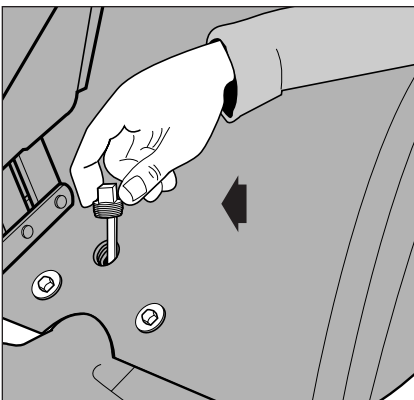

Figure 5-8: Checking gear oil level; markings on dipstick (tine attachment transmission) must face rear.
IMPORTANT: Two different gear oil checking procedures for the tine attachment transmission are described next. Use the first procedure if the dipstick in your tine attachment has only a 'Check Cold' marking. Use the second procedure if the dipstick has both cold and hot markings at the end. First remove the dipstick from the tine attachment transmission (Figure 5-8) to see which type dipstick you have. Then replace the dipstick with markings on dipstick facing to rear.
6. Loosen and remove transmission dipstick (Fig. 5-8). Wipe it clean with a rag.
7. Hold dipstick so its markings face to rear of tiller. Lower it straight down into the sump hole to *touch* the drive shaft inside (Fig. 5-8). Don't force or try to thread it back in; an incorrect reading will result.
2. Remove dipstick from tine attachment (Figure 5-8).